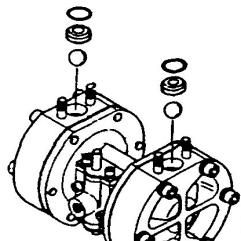

Fig. 4.8
- Remove the O-ring, ball and valve seat. [Fig. 4.8]